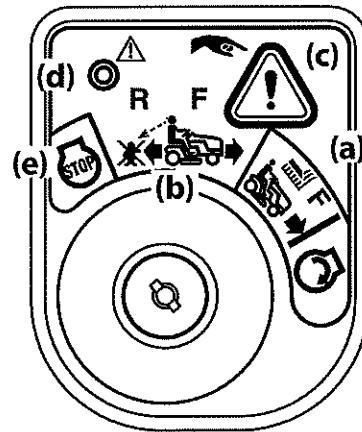

Figure 16
2. Turn the ignition key from the NORMAL MOWING (a) position to the REVERSE CAUTION MODE (b) position of the ignition switch. See Figure 16.
3. Press and hold the REVERSE CAUTION MODE BUTTON (c) at the top, right corner of the ignition module for 3 seconds. The red indicator light (d) at the top, left corner of the ignition module will be ON while activated. See Figure 16.
4. Once activated (Indicator light ON), the tractor can be driven in reverse with the PTO (Blade Engage) in the engaged (ON) position.
The REVERSE CAUTION MODE (b) will remain activated until (see Figure 16 on page 18):